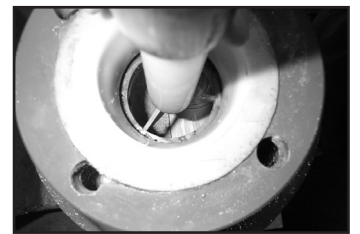

figure 19
1. Remove the casing (item 1) from the base plate and piping.
3. Place arbor on the nose of the front shaft support (item 3) and carefully press the front shaft support out of casing. See figure 19.